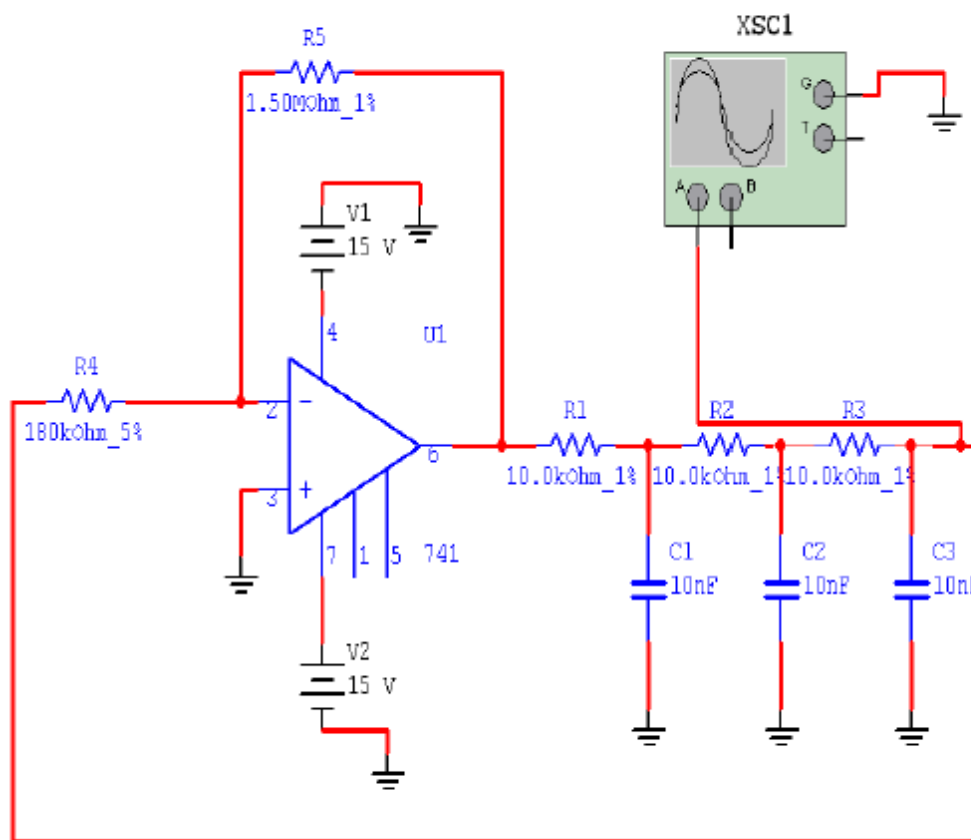

Fig.7 RC-Phase Shift Oscillator
- Construct the circuit shown in Fig.7.